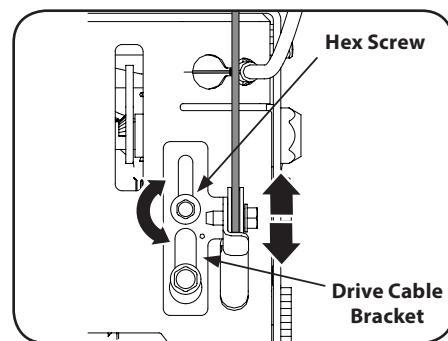

Figure 4-11
2. Loosen upper hex screw on drive cable bracket. See Figure 4-11.